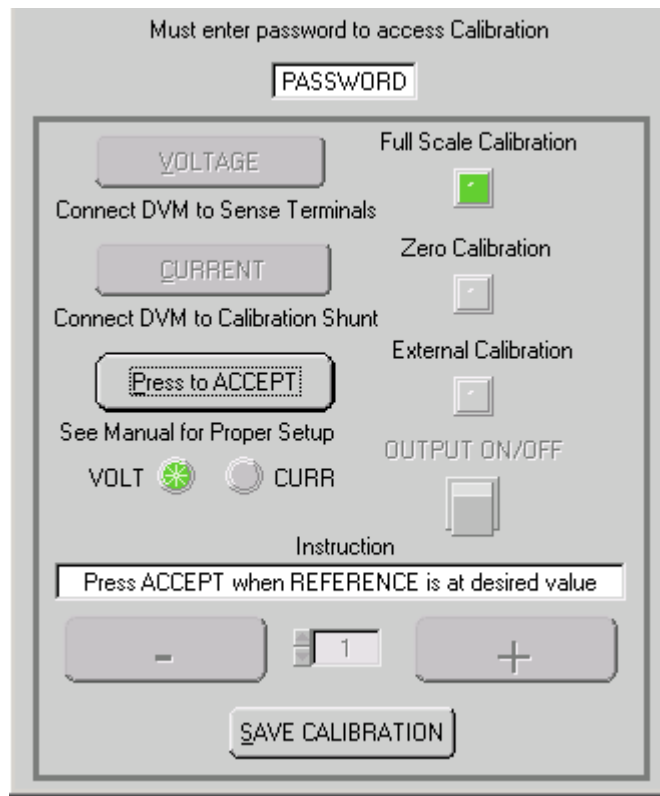

FIGURE 4-5. ANALOG REFERENCE CALIBRATION WINDOW
- Click the **ANALOG REF** button on the Calibration Window; the Analog Reference Calibration Window (Figure 4-5) appears and the status display on the VXI main panel reads **INPV**. With the reference voltage adjusted to 10.000V, click the **PRESS TO ACCEPT** button to accept the value. When the calibration is saved, this analog voltage will be equivalent to full scale output voltage.